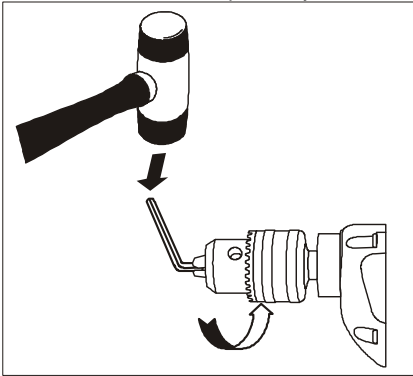

Fig.12
7. Insert the hex key into the chuck and tighten the jaws of the chuck securely (Fig. 12). Tap the hex key sharply with a mallet in a **COUNTER-CLOCKWISE** direction. This will loosen the chuck on the spindle. The chuck can now be unscrewed and removed from the spindle by hand.